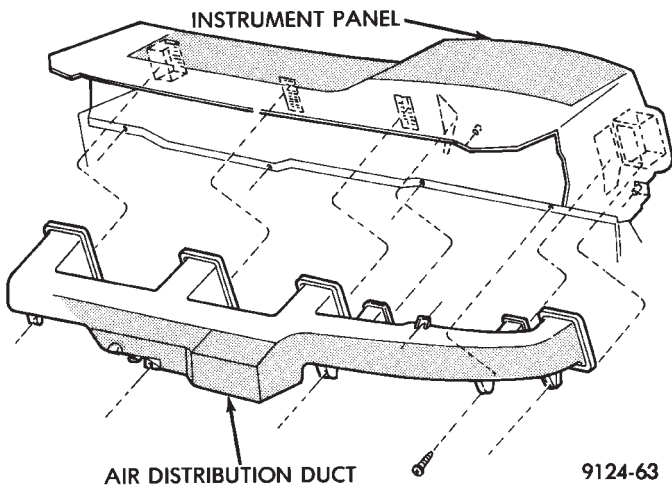

Fig. 6 Air Distribution Duct
(2) After instrument panel has been removed, separate the defroster/demister ducts from the air distribution duct.
(3) Remove the air distribution duct-to-instrument panel mounting screws (Fig. 6).